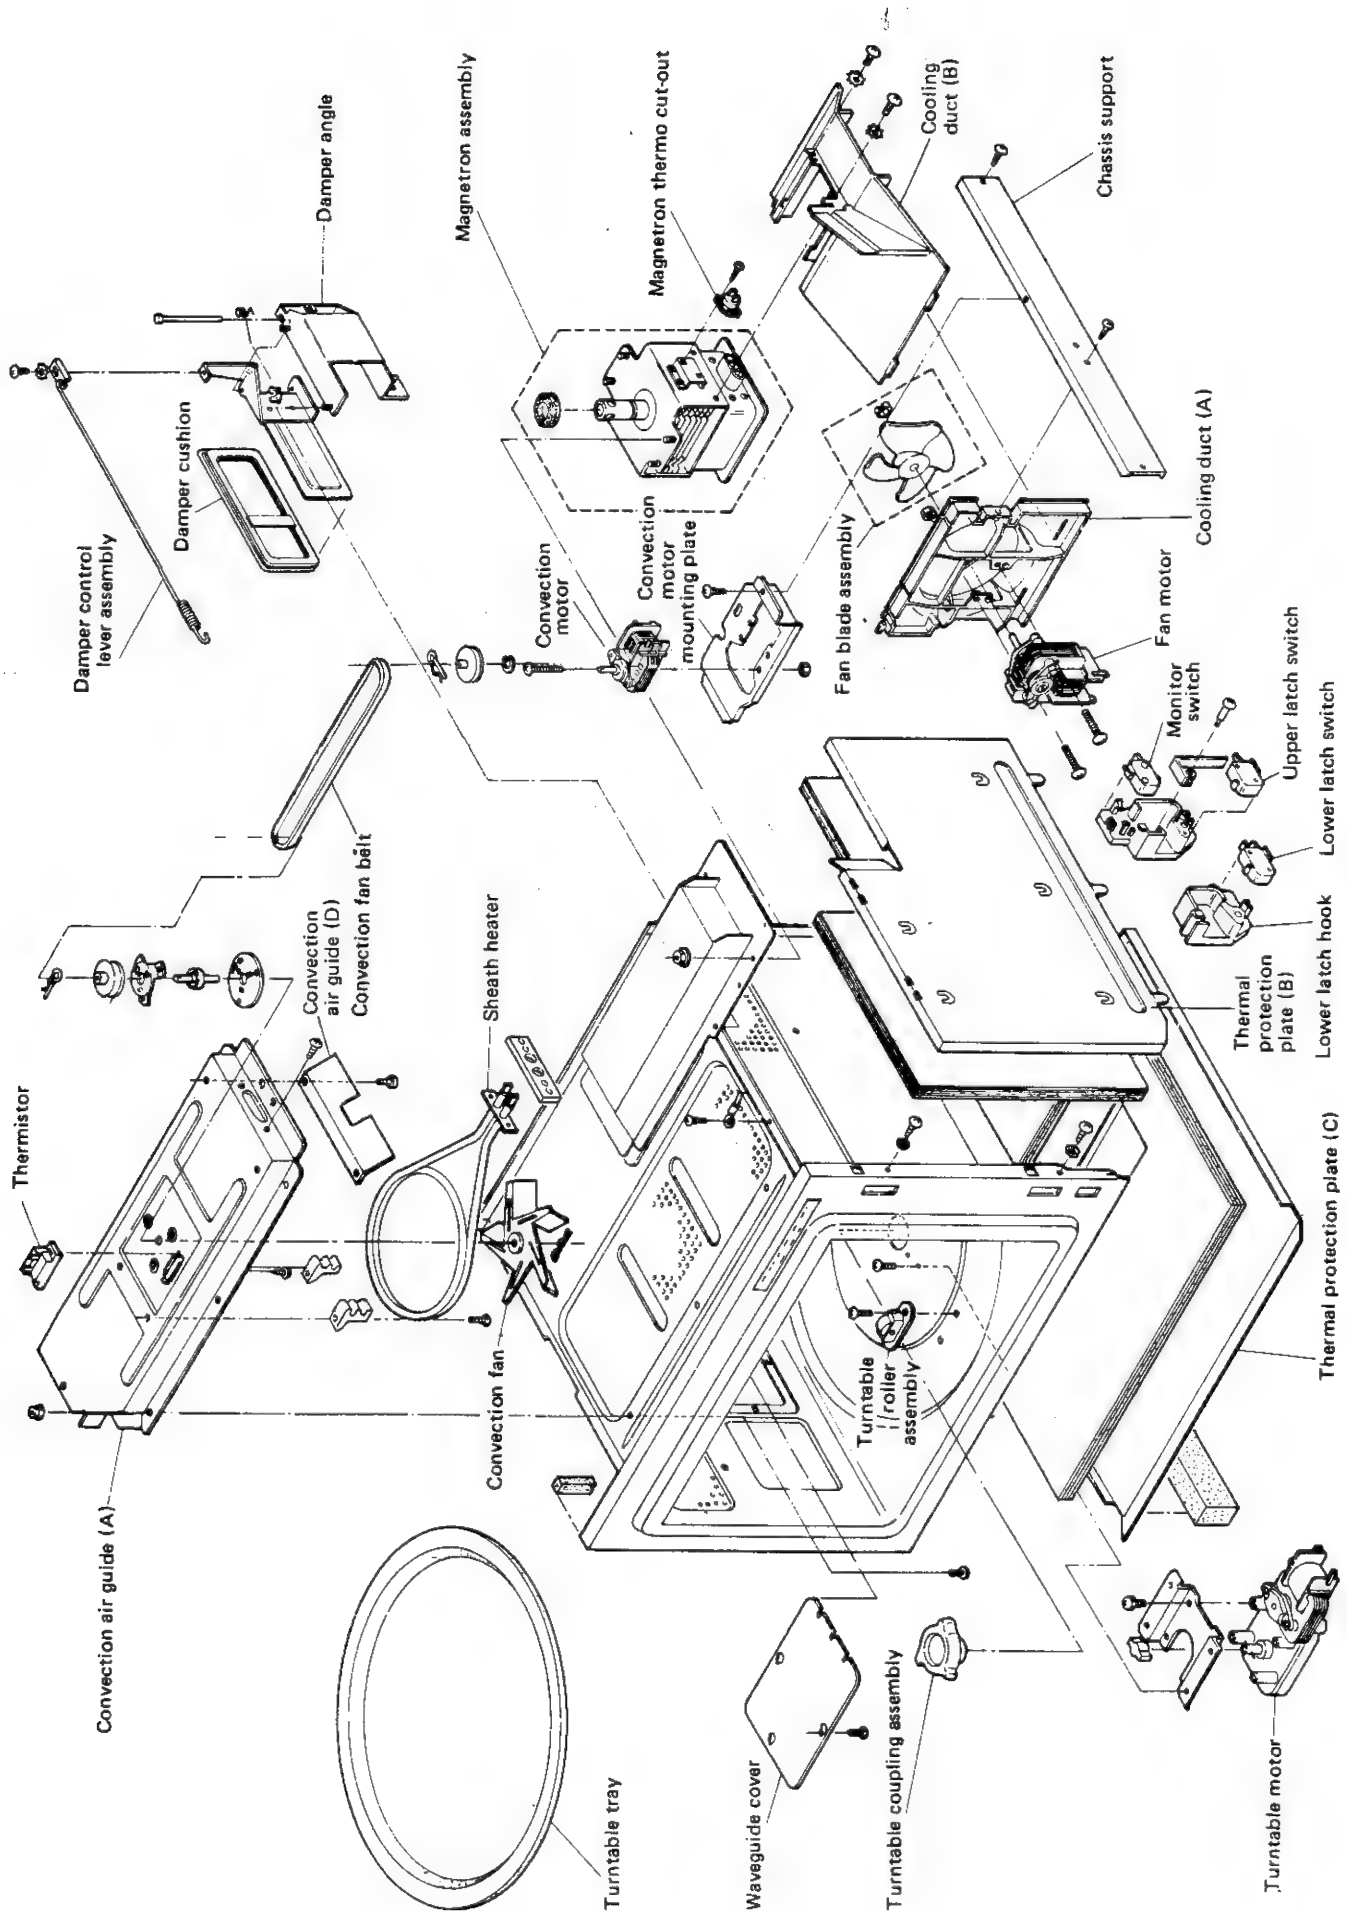

Figure 15. Oven Cavity Components (PART I)
4. Release the tab which is provided on the cooling duct (B) to hold the cooling duct (A), Figure 15.
5. Carefully remove the four (4) mounting nuts holding the magnetron assembly to the waveguide while supporting the magnetron assembly from below.
7. Remove the two (2) screws and washers holding the cooling duct (B) to the magnetron assembly.
8. Remove the cooling duct (B) from the unit.
9. Remove the thermo cut-out, and cooling duct (B) by loosening the mounting screws.